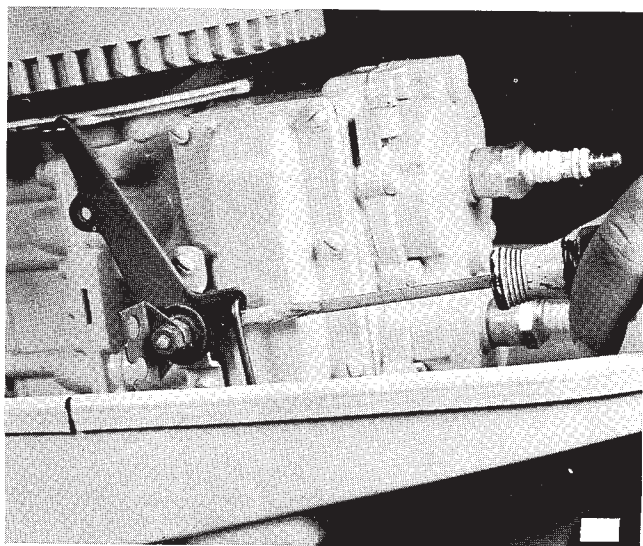

FIGURE 33 — MAGNETO CONTROL LEVER
- A. Install magneto control lever bracket to two (2) center-forward screws on exhaust port cover.
- C. Install link between magneto control shaft from steering handle and lower end of magneto control lever, as shown in Figure 33.